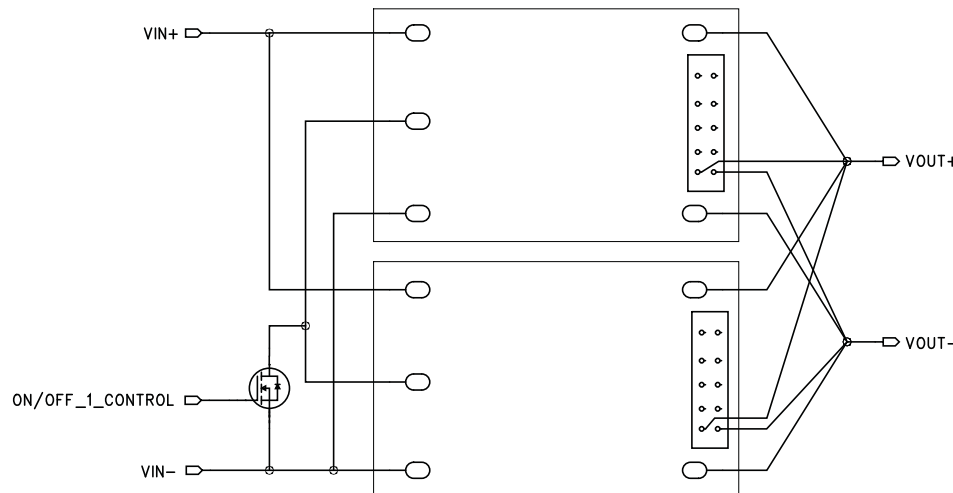

Figure 2. Load Sharing Block Diagram
Two or more converters may be connected in parallel at both the input and output terminals to support higher output current (total power, see figure 2) or to improve reliability due to the reduced stress that results when the modules are operating below their rated limits. For applications requiring current share, followed the guidelines below. The products have a pre-configured voltage droop. The stated output voltage set point is at no load. The output voltage will decrease when the load current is increased. The voltage will drop 0.35V while load reaches max load. Our goal is to have each converter contribute nearly identical current into the output load under all input, environmental and load conditions.
- +Vout and –Vout of all parallel units should be connected with a balance output impedance; +Sense and –Sense should be connected together (see figure 2).